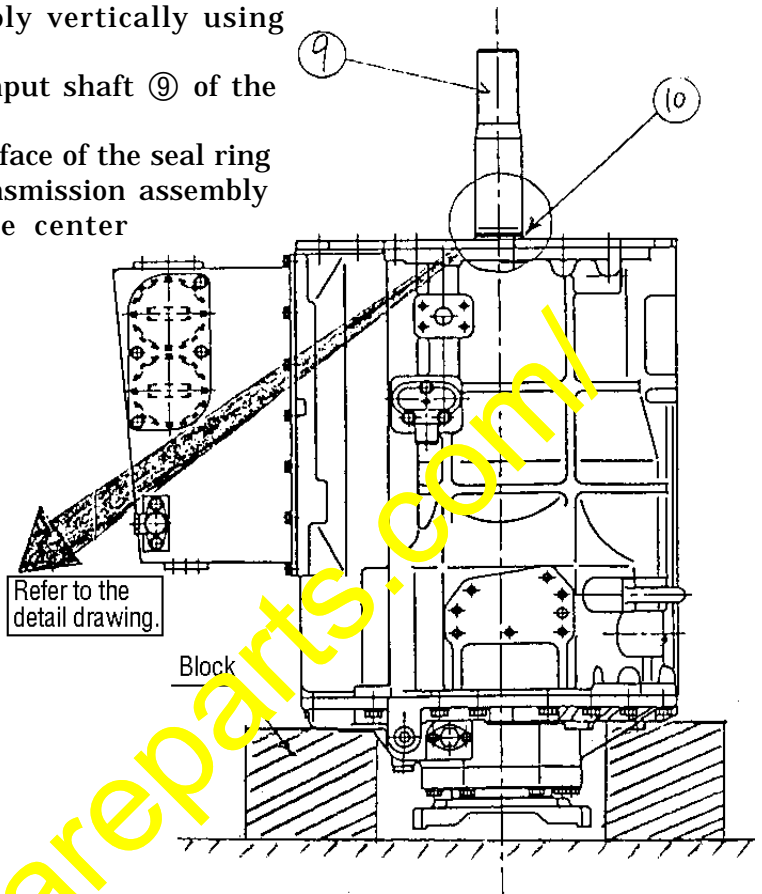

Fig. 7
- 1) Place the transmission assembly vertically using blocks. (Refer to Fig. 7.)
- 2) Install the seal ring ⑩ to the input shaft ⑨ of the transmission assembly.
(Refer to Fig. 7 (Detail drawing).)
<Fig. 7 (Detail drawing)>